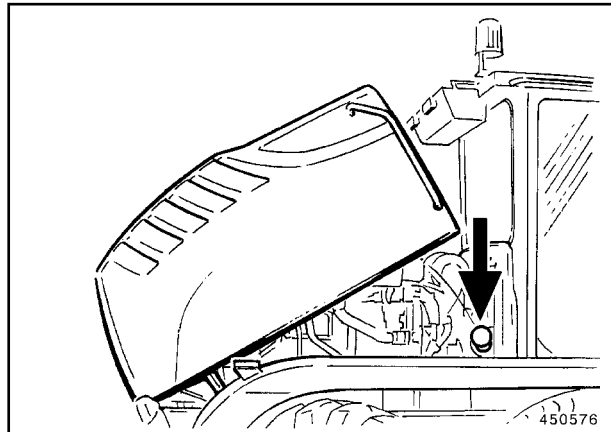
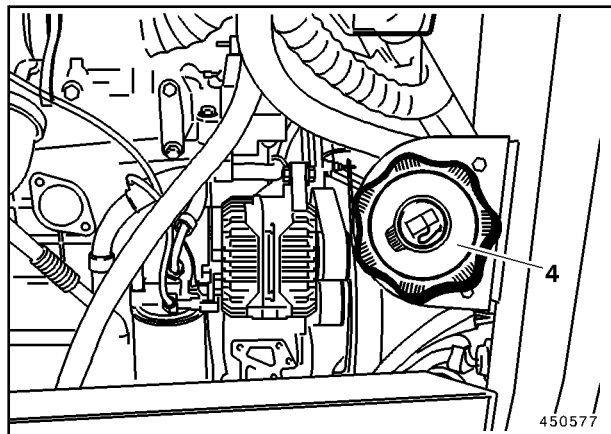

Fig. 1
Fig. 2
- The filler tube (4, Fig. 2) is located in the engine compartment. The filler tube is accessible after opening of the engine hood (Fig. 1).